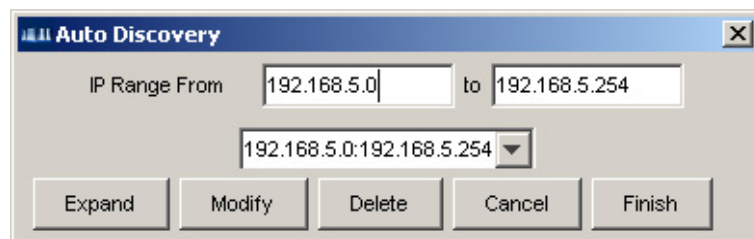

Figure 4-49: Auto Discovery Dialog Box
-  **Step 2.** Double-click on the current value under **IP scan range** row to open the Auto Discovery dialog box. (See *Figure 4-49*)